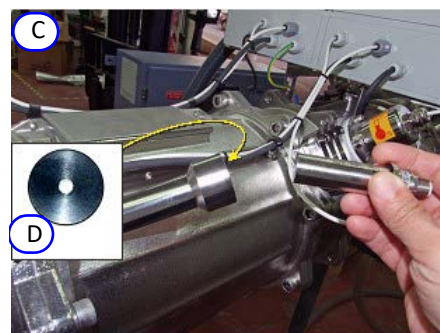
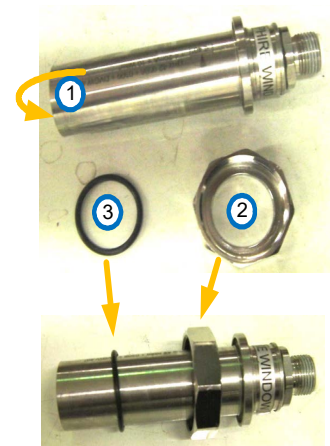

Figure 10-27: Removing a Sensor C 2 (Generic View)
Figure 10-30: Sensor, nut and washer
- Step 3.** Carefully pull the sensor out of the housing (**Figure 10-27**). If a pinhole (D) is present it slides out. The large nut comes off together with the sensor.
- Step 4.** Check the sensor's lens (1 in **Figure 10-30**) for condensation. If present, using a dry lens cloth, dry the lens thoroughly.
- Step 13.** Unpack the new sensor (**Figure 10-30**) and the sensor pinhole (**D** in **Figure 10-27**, if supplied).